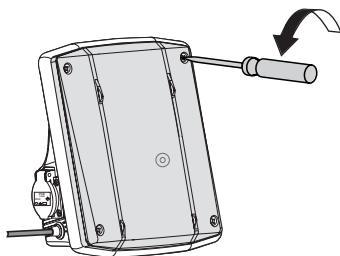

Fig. 13
- 5.1.1 Open the transparent cover with a screwdriver. (Fig. 13).